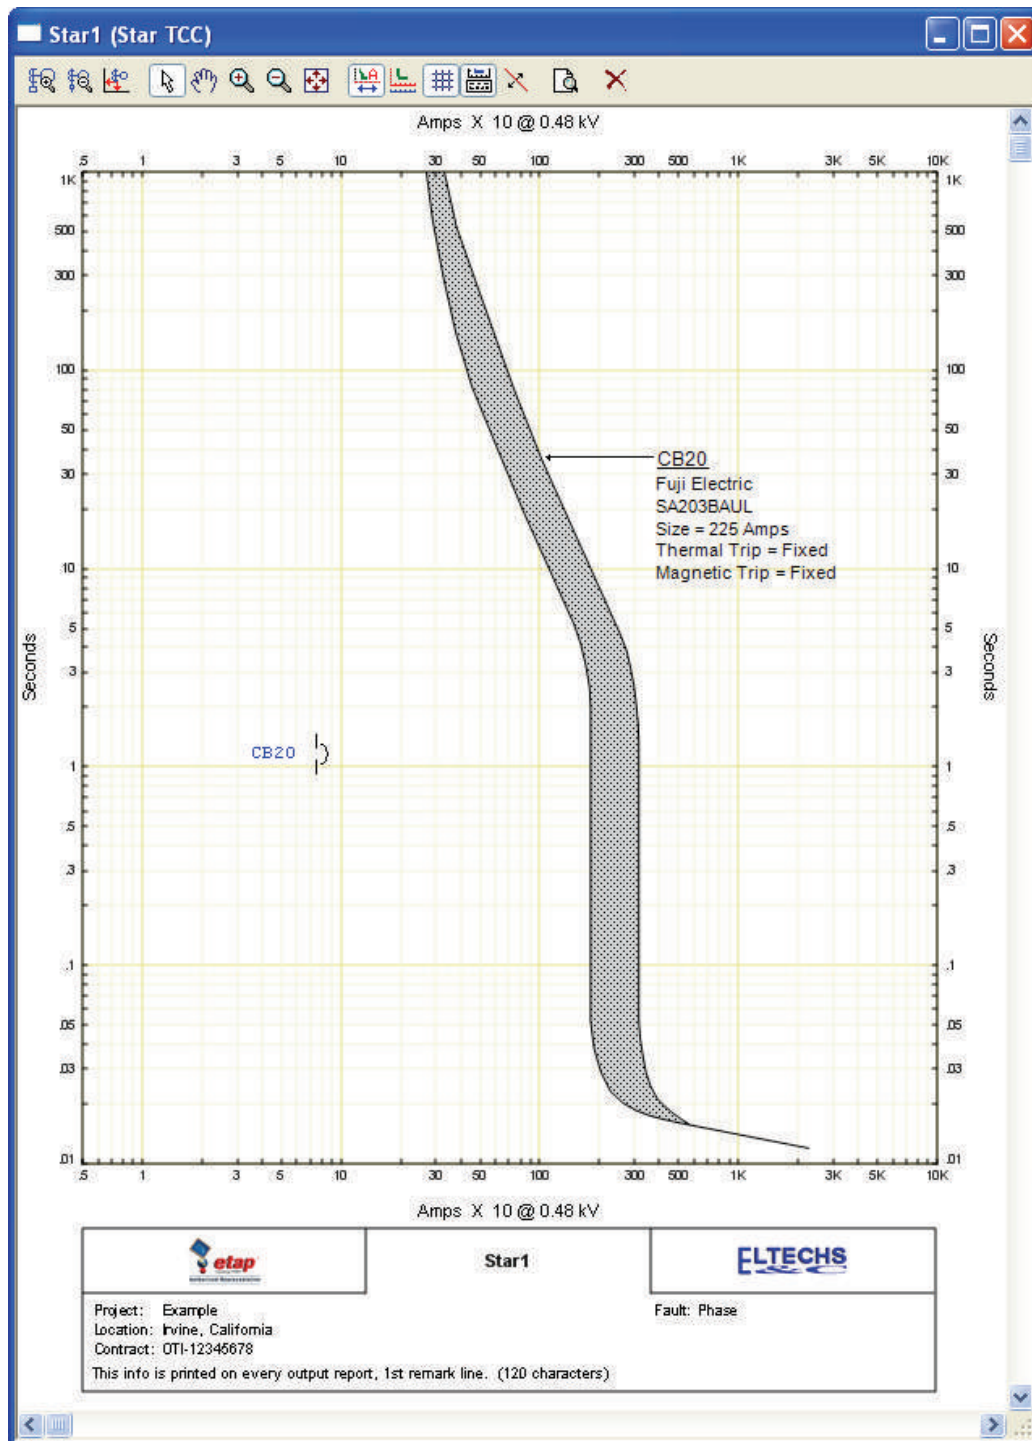

Fig. 31
11. The TCC plot will be created similar to Fig. 31.